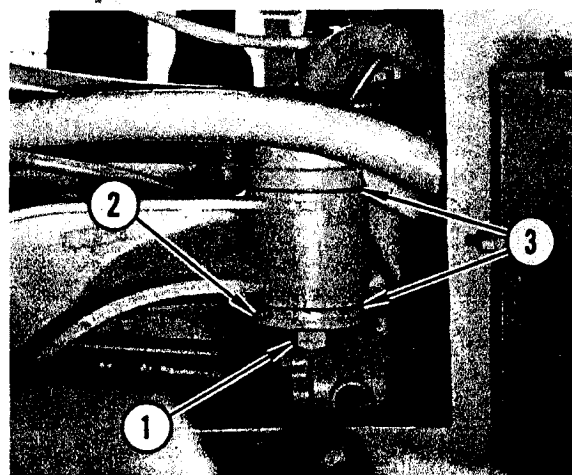

FIGURE 11. ENGINE MOUNT
Refer to Figure 11. Remove nut (1) and lower washer (2) from front engine mount bolt. There will be shims on the washer. Wire these shims to washer and identify as being lower washer. These shims will be required during reassembly.